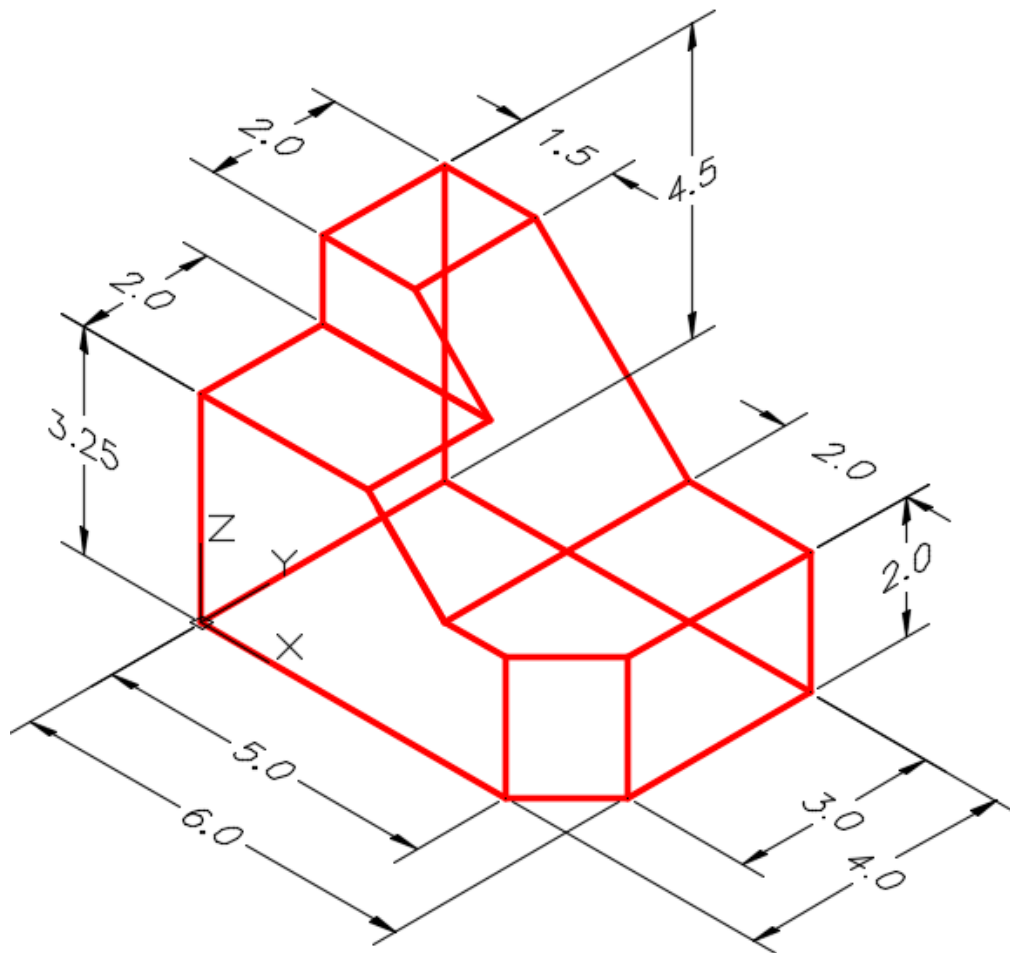

Figure Step 5A
Step 5 Set the current UCS to Front. Using the figures as a reference, draw the contour of the Front view. (Figure Step 5A and 5B)